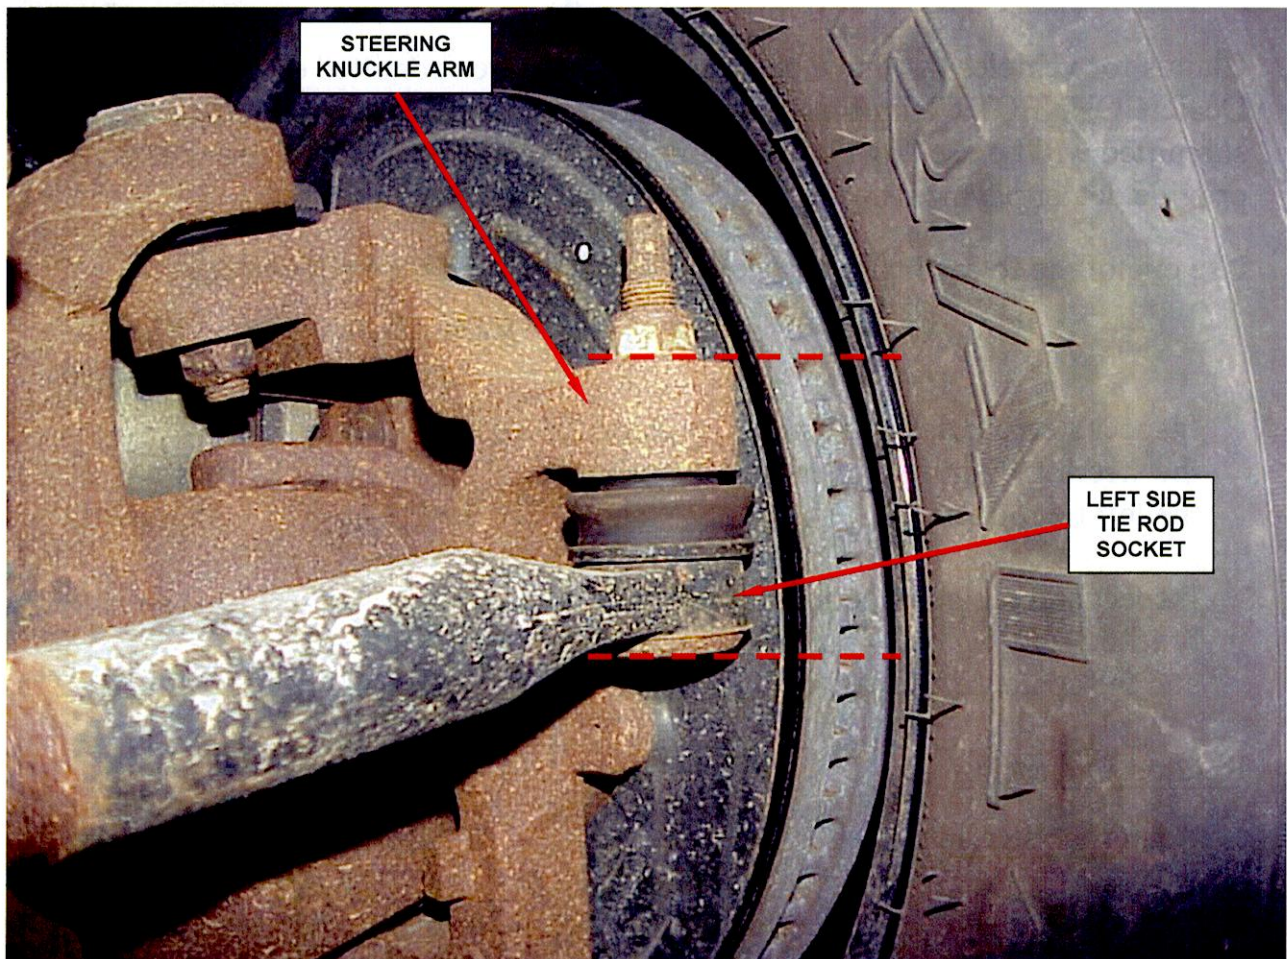

Figure 8 – Align Left Tie Rod Socket Parallel to Left Steering Knuckle
5. Verify the lower surface of the left outer tie rod socket (Figure 8) is parallel to the upper surface of the left knuckle attaching arm using the following procedure:
- b. Rotate the left tie rod until the bottom of the tie rod socket is parallel to the top of the left steering knuckle arm (Figure 8).